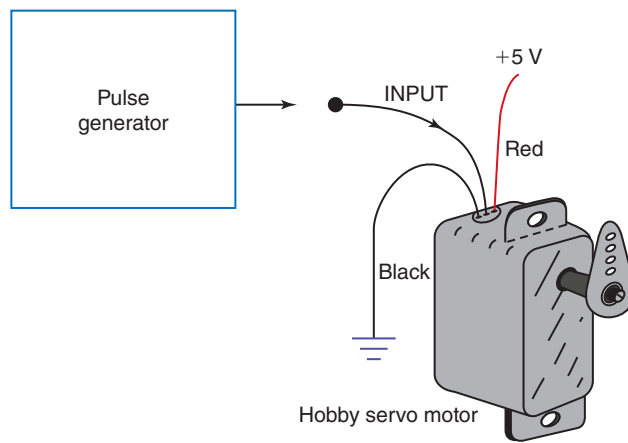

Fig. 5-49 Driving a servo motor.
- 5-53. Refer to Fig. 5-49. The pulse generator will vary the _____ causing the servo motor to adjust the angular position of the output shaft.